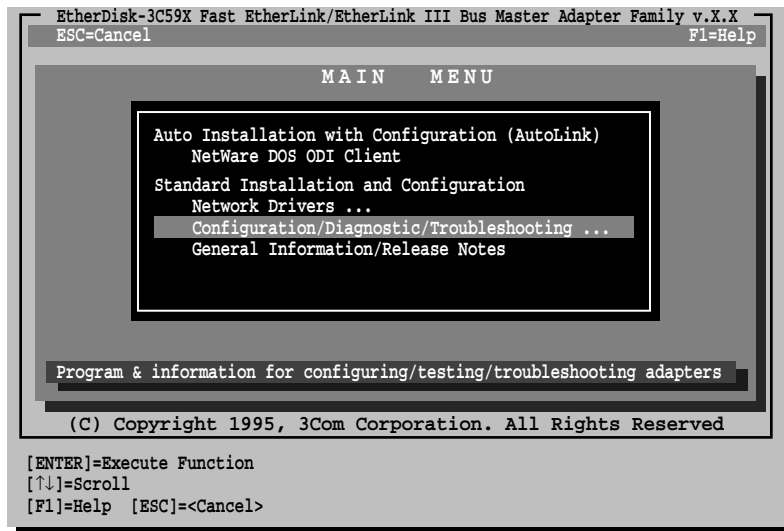

Figure 3-3 Main Menu
- 7 When the main menu appears with a list of options, as shown in Figure 3-3, select *Configuration/Diagnostic/Troubleshooting*.